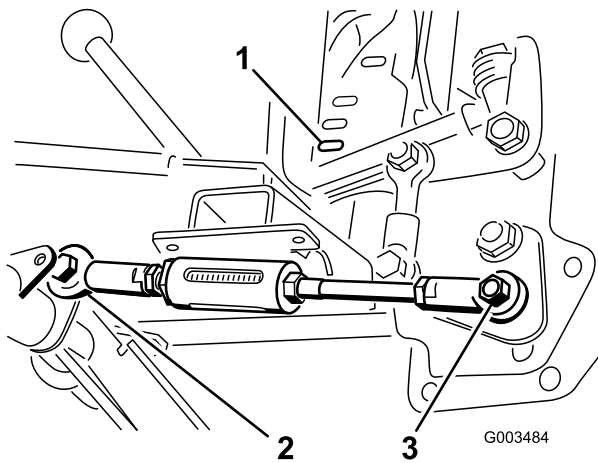

Figure 8
6. Move the lift handle until the hole in the ball joint aligns with the hole on the right-side of the adjustable rod lever on the pivot tube and secure the rod to the lever with a bolt (1/2 x 1-1/2 inches) and locknut (1/2 inch), as shown in Figure 8.